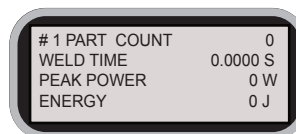

Figure 5-5 LCD Display at Start-up 3
6. When the diagnostics sequence is finished, the next screen to appear will look like Figure 5-5.